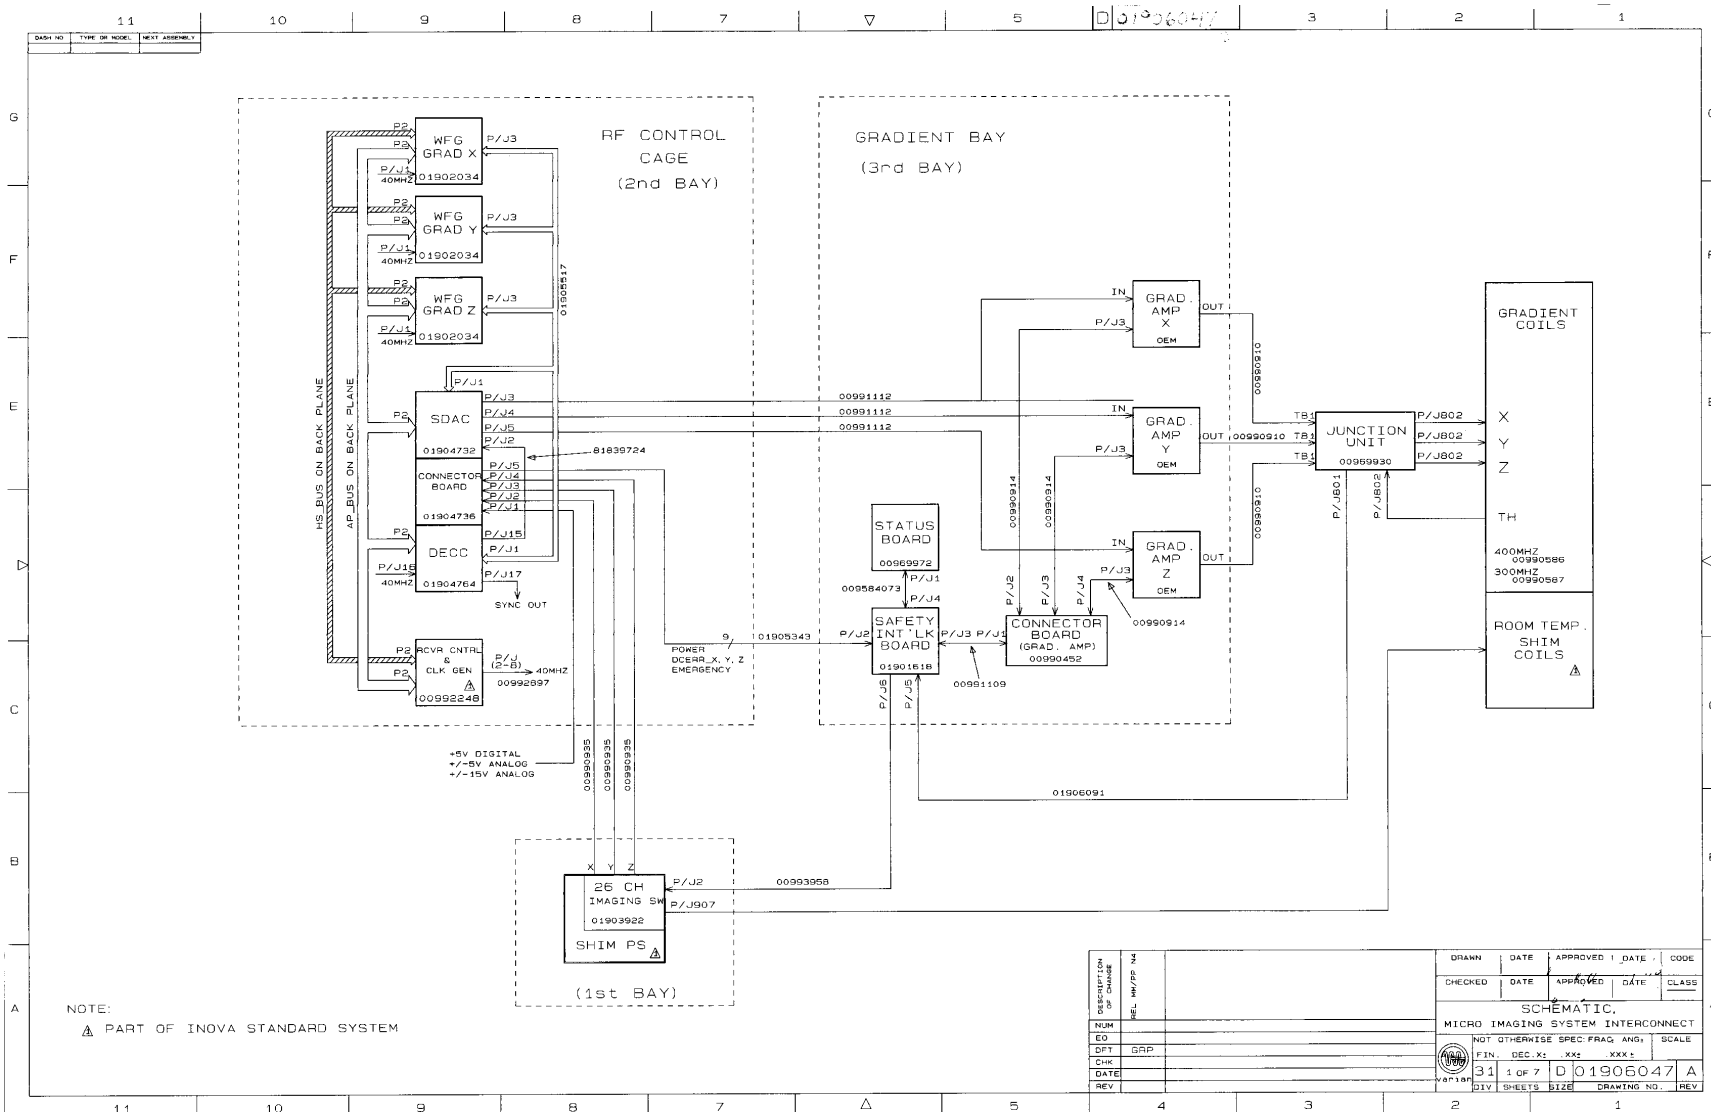

Figure 4. UNITY INOVA Microimaging Interconnect
3. Using the SMB cables that were used in the microimaging cabinet to provide 40 MHz to the Waveform Generator boards, connect a 40-MHz clock from the Receiver Controller to each of the Waveform Generator boards. Use an SMB T (58-180018-00) if not enough outputs are available. See Figure 4.